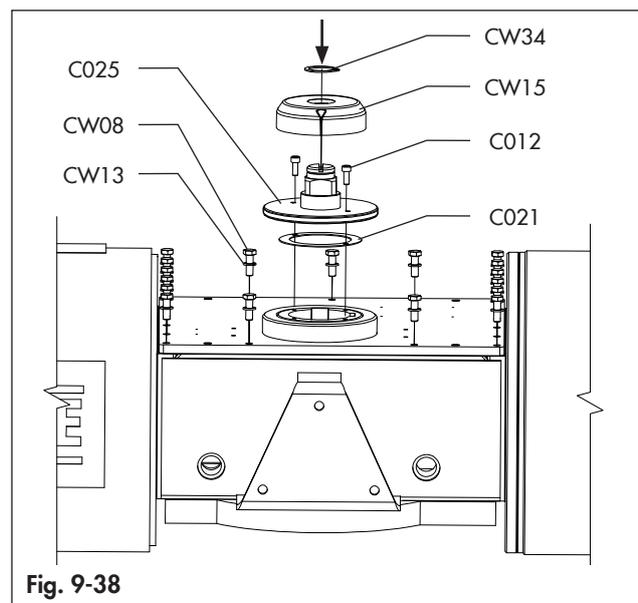

Fig. 9-38
- Apply the threadlocker Loxeal 83•21 or equivalent and tighten the screws (CW08) along with the washers (CW13). (Fig. 9-38)